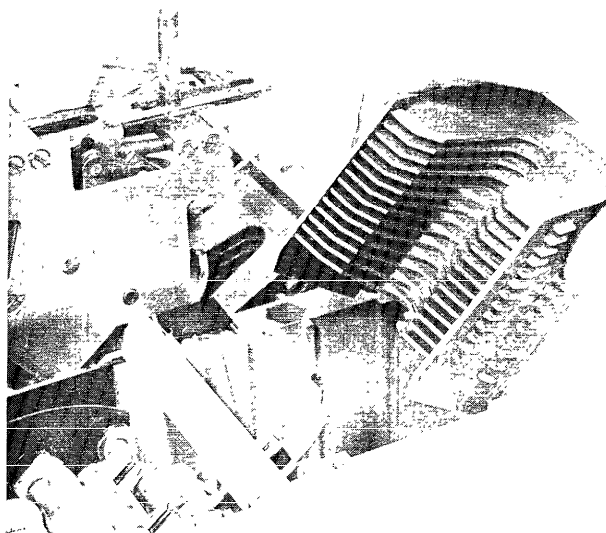

Fig. 3.
2. Remove arc chute from right pole for ease of access to interior (Fig. 3).
- Replace arc chute (Fig. 3).